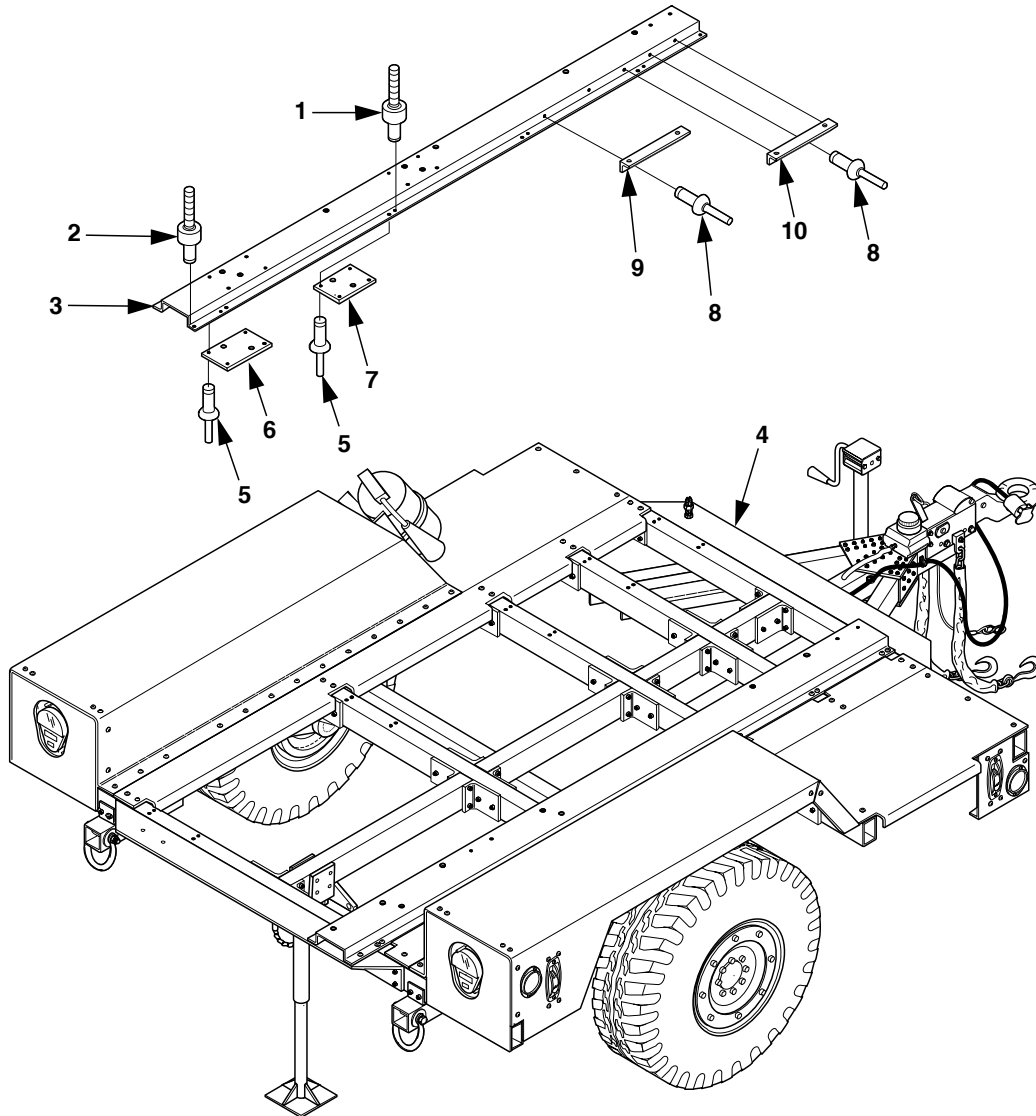

Figure 5-27. PU-797A and AN/MJQ-35A Generator Mounting Rail Replacement.
Remove rivets (1 and 2, figure 5-27) and mounting rail (3) from trailer chassis (4).